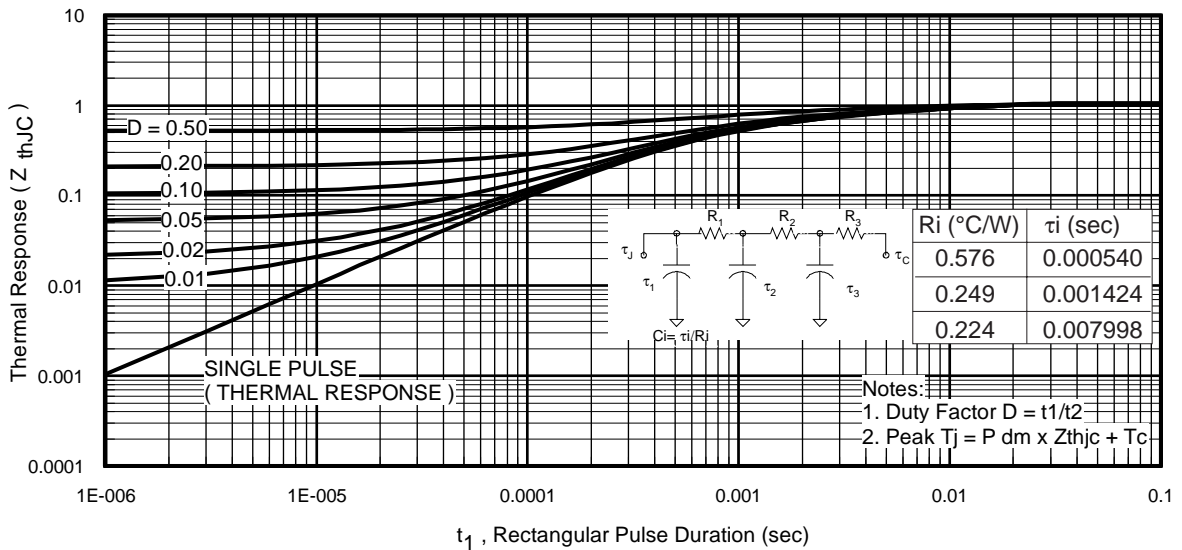
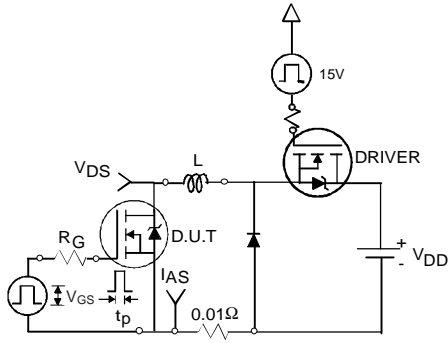

Fig 11. Maximum Effective Transient Thermal Impedance, Junction-to-Case
Fig 12a. Unclamped Inductive Test Circuit
3. Equation below based on circuit and waveforms shown in Figures 12a, 12b.
$Z_{thJC}(D, t_{av})$ = Transient thermal resistance, see figure 11)
- ① Repetitive rating; pulse width limited by max. junction temperature. (See fig. 11).
- ② Limited by T_{Jmax} , starting $T_J = 25^\circ\text{C}$, $L = 0.28\text{mH}$, $R_G = 25\Omega$, $I_{AS} = 33\text{A}$, $V_{GS} = 10\text{V}$. Part not recommended for use above this value.
- ③ Pulse width $\leq 1.0\text{ms}$; duty cycle $\leq 2\%$.
- ④ C_{oss} eff. is a fixed capacitance that gives the same charging time as C_{oss} while V_{DS} is rising from 0 to 80% V_{DSS} .
- ⑤ Limited by T_{Jmax} , see Fig.12a, 12b, 15, 16 for typical repetitive avalanche performance.
- ⑥ This value determined from sample failure population. 100% tested to this value in production.
- ⑦ When mounted on 1" square PCB (FR-4 or G-10 Material). For recommended footprint and soldering techniques refer to application note #AN-994.